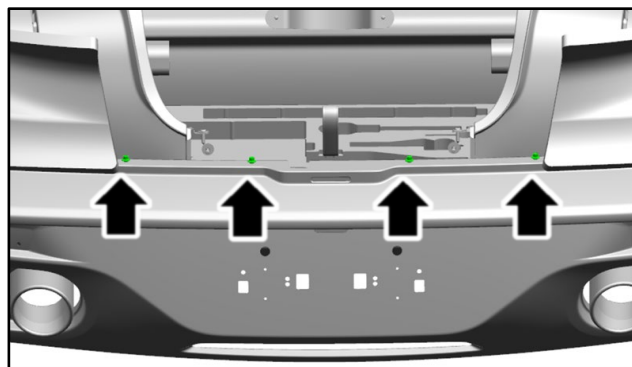

Figure 9
14. Remove the four bolts that attach the centre of the rear diffuser to the vehicle body (refer to Figure 9).